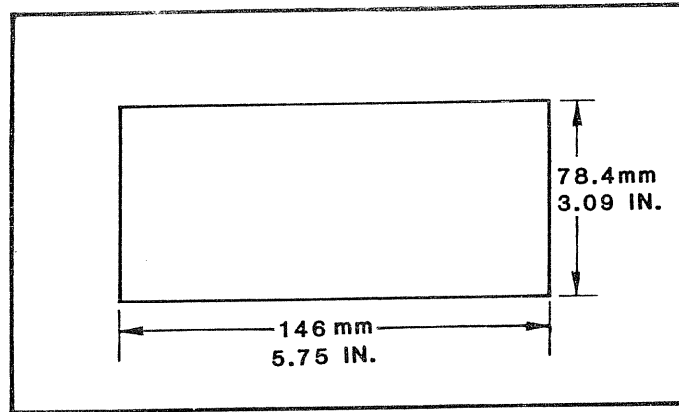

Figure 3-1. Mounting Dimensions
3.2 General Installation Information. The Series V fits a 3-3/32" by 5-3/4" cutout. Cutout dimensions are shown in Figure 3-1. The operator may also refer to Figure 3-5, the Installation/Interconnection Diagram. This fold-out figure is located at the end of the manual.